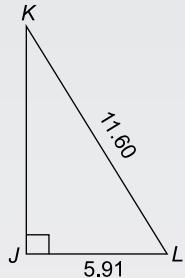

Figure RT1.1
- (b) 1.724 radians to degrees (4)
2. In triangle JKL in Figure RT1.1, find